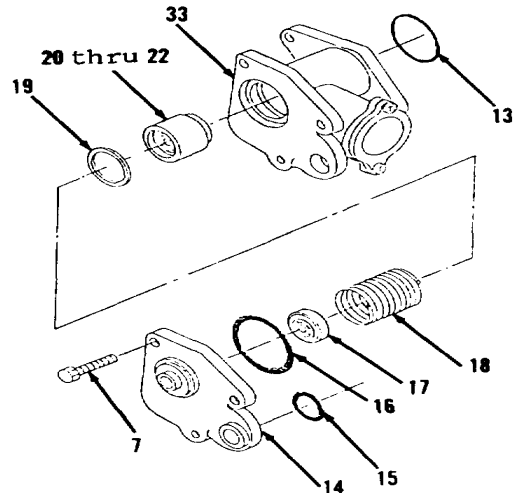

Figure 3-143.
13. Remove and discard preformed packing (13) from housing (33, Figure 3-143).